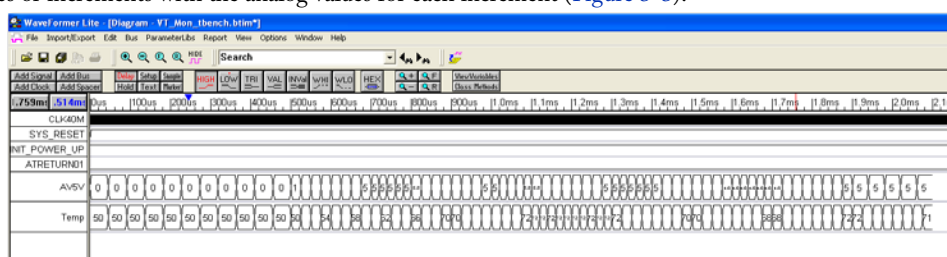

Figure 3-3 · Resulting Waveform for AV5V Voltage Monitor Signal
- Click **OK**. The resulting data for the AV5V and Temp signals is shown in the WaveFormer window as individual pulses or increments with the analog values for each increment (Figure 3-3).